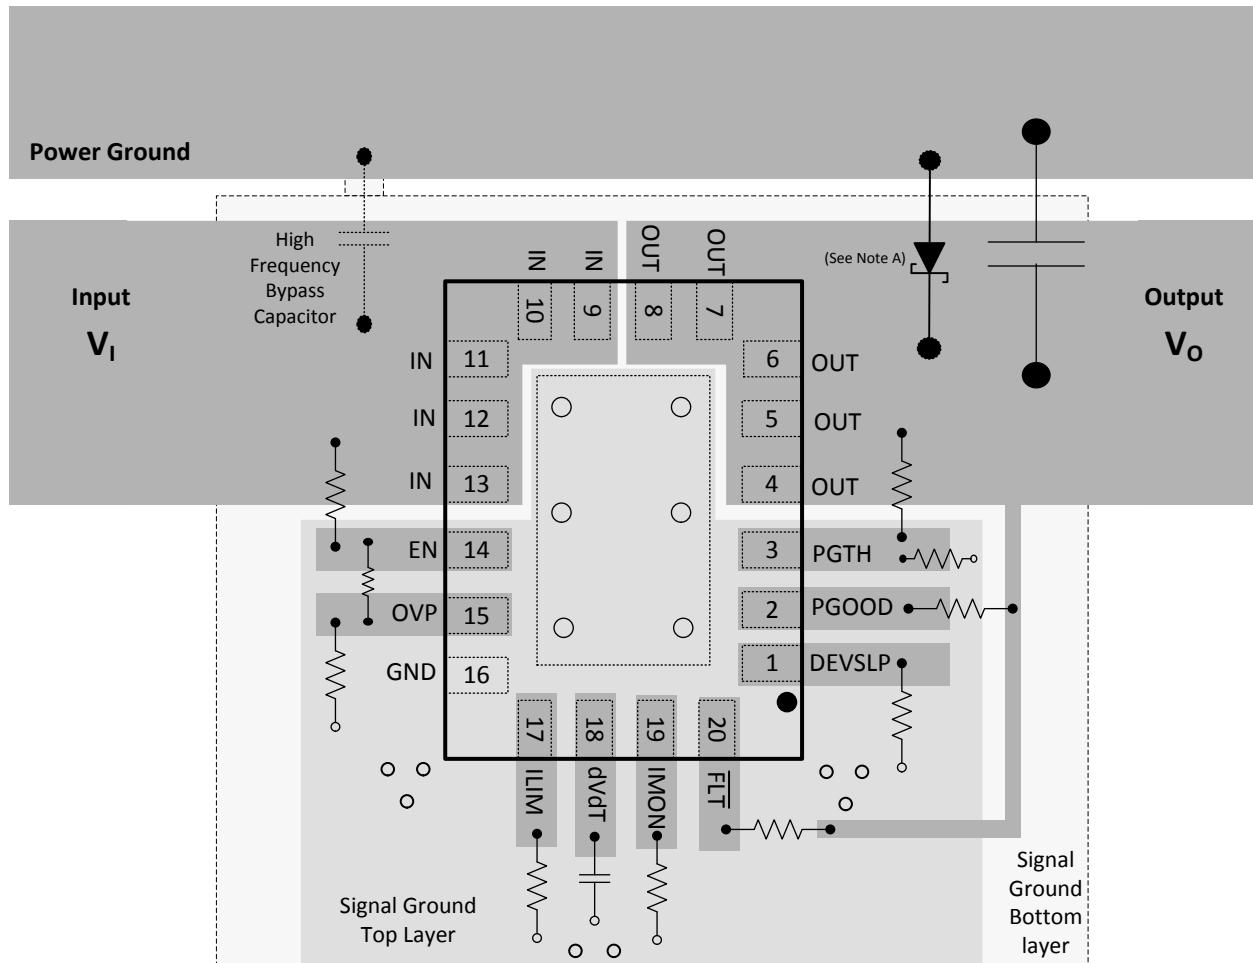

Figure 12-1. Board Layout
- The optimum placement of decoupling capacitor is closest to the IN and GND terminals of the device. Care must be taken to minimize the loop area formed by the bypass-capacitor connection, the IN terminal, and the GND terminal of the IC. See Figure 12-1 for a PCB layout example.